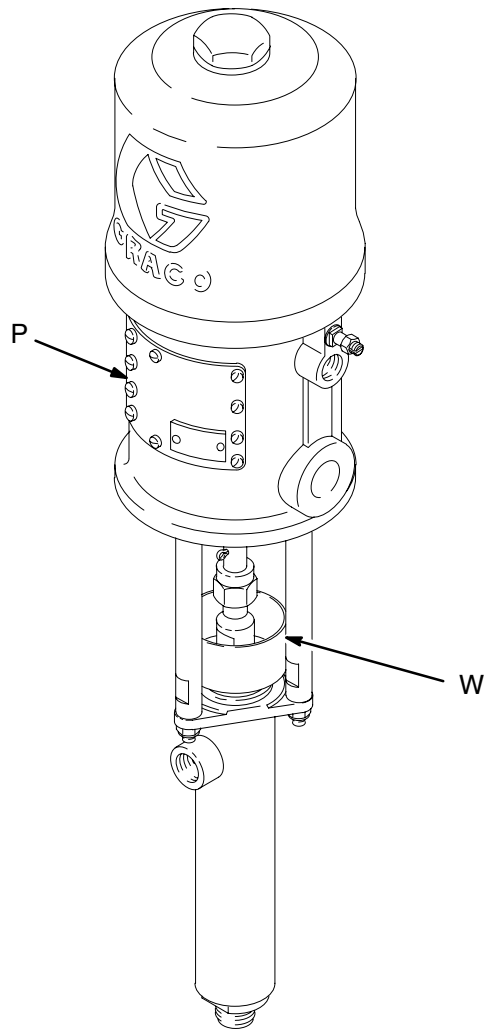

Fig. 3
Before starting, fill the packing nut (W) 1/2 full with Graco Throat Seal Liquid (TSL) or compatible solvent. See Fig. 3.
Moving parts can pinch or amputate your fingers or other body parts. When air is supplied to the motor, the air motor piston (located behind the air motor plates) moves. Therefore, **never** operate the pump with the air motor plates (P) removed. See Fig. 3.